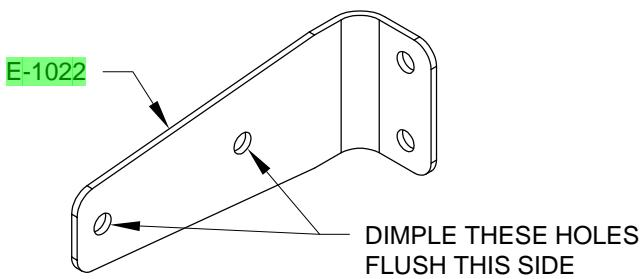

FIGURE 2: DIMPLING THE SHEAR CLIP
Step 2: Dimple the holes in the long flange of the inboard E-1022 Shear Clip for 1/8" flush rivets, flush on the side shown in Figure 2. (The shear clip attached to the E-903 Outboard Tip Rib does not need to be dimpled.)